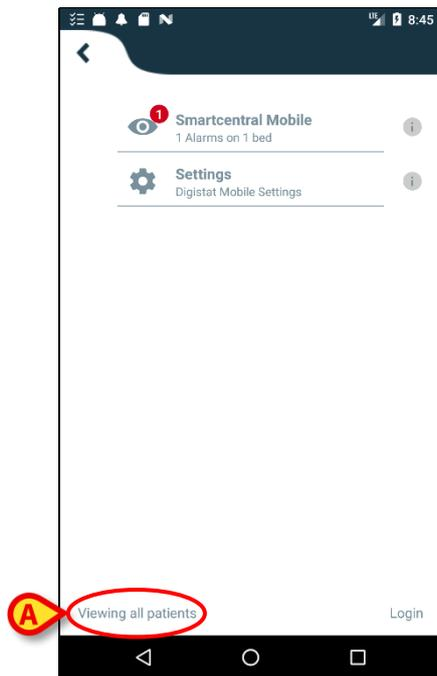
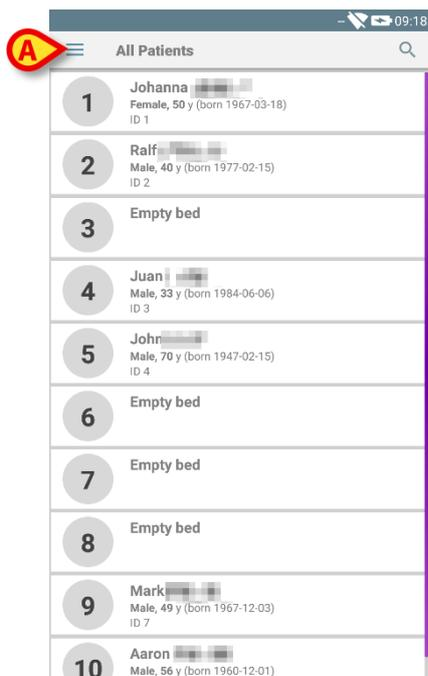

Fig 158
Fig 159
On the lower-left corner of the modules list screen, it is specified if the device is currently set on “My patients” or “All patients” (Fig 158 **A**).
- Touch the indication (Fig 158 **A**) to display the managed patients list (Fig 159).
- Touch the  icon (Fig 159 **A**).